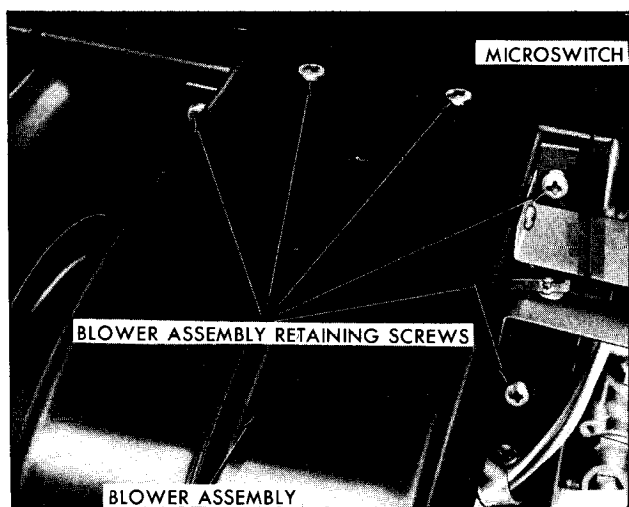

Figure 24–Blower Assembly Mounting Screws
4. Remove five screws holding blower assembly to furnace (figure 24).
9. Install the five screws holding blower assembly to the furnace shown in Figure 24.